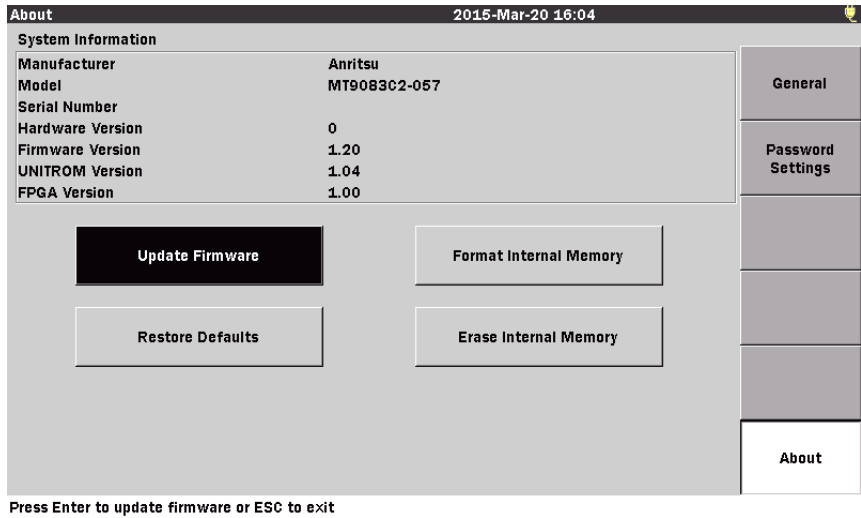

Figure 3-17: About Screen
2. Press **About (f6)**, the About screen appears (see Figure 3-17 on page 3-31).